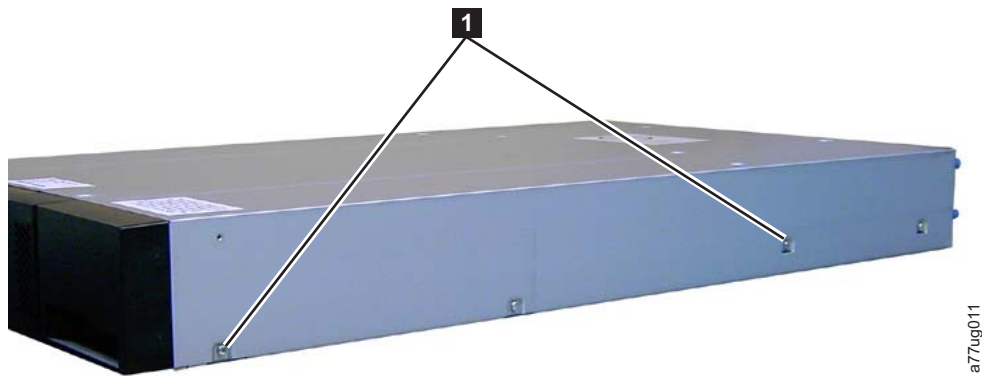

Figure 2-7. 2U library side screws to remove
4. Using the Torx wrench included in your shipment, remove the screws (**1**) as shown in Figure 2-7. Screw locations on the 4U library are similar.